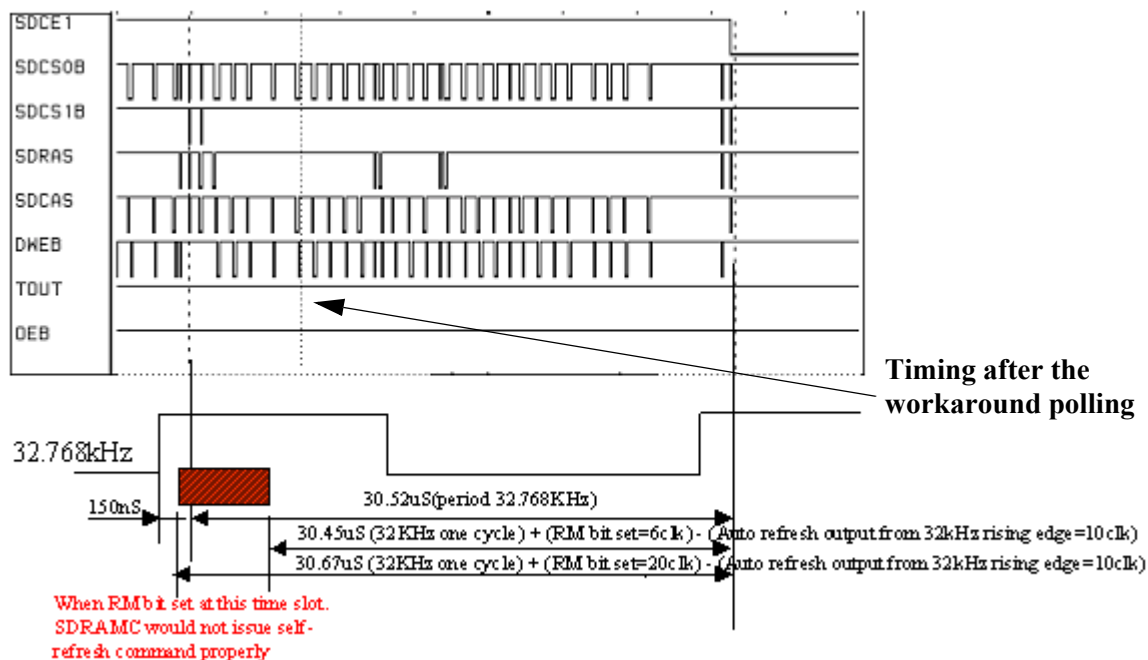

Figure 4. Software Polling
2. Figure 4 shows the timing diagram as a result of the workaround.